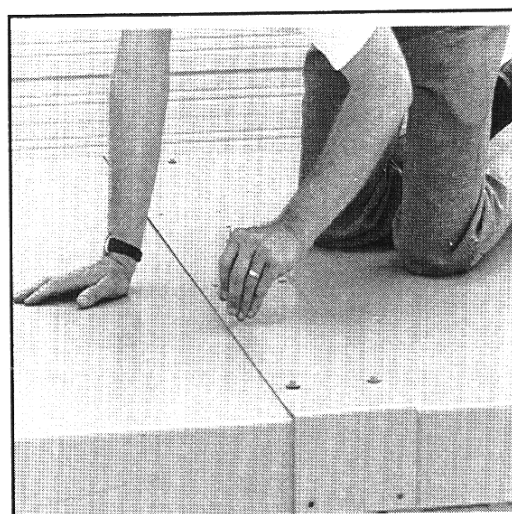

Fig. 3 Installation of Roof Caps on Outdoor Units
- c. Draw a pencil line down the side(s) on to the roof to mark the edge(s) of the cap on the roof. (Fig. 3)